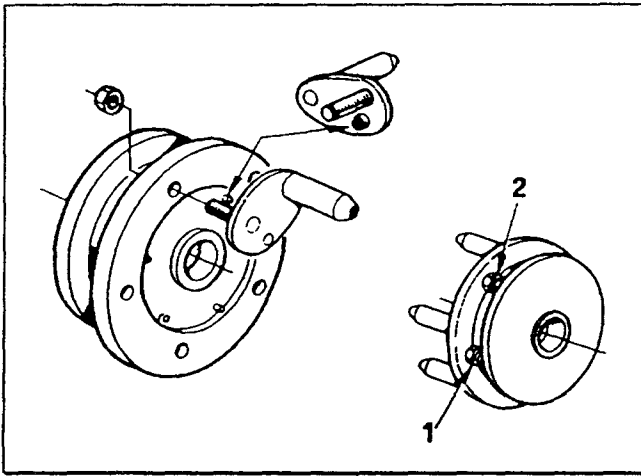
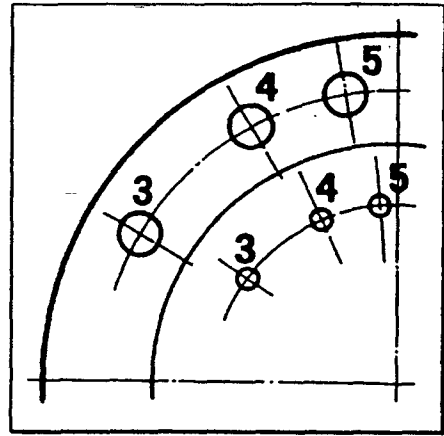

Fig.25
Fig.26
B. Remove all of the nuts (#1 Fig.25) on the back of the flange except the zinc plated self-locking nut (#2 Fig.25).
C. Remove all the studs, except the reference stud. Reassemble the studs on the flange by inserting the threaded pins into the holes marked with the number of the desired configuration (3,4 or 5). Ensure that the guide groove is engaged in the matching pin (Fig. 25). Look at the numbers stamped on the flange to match hole and pin (Fig.26).